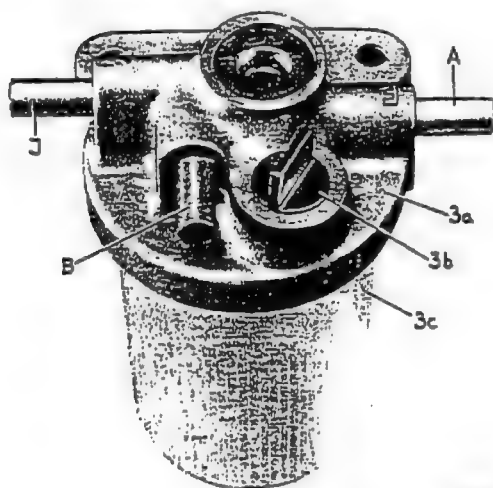

Fig. 32-12/12
4. After 1900 miles (Schedule B) and every 1900 miles (Schedules C, D and E), during the winter season, when temperatures are below 5° C, fill the jar with 96 per cent. completely methylated ethyl alcohol (ethanol) up to the longitudinal groove. To do this, unscrew the screw plug (3b) (Fig. 32-12/12). Drain the condensation before filling up.